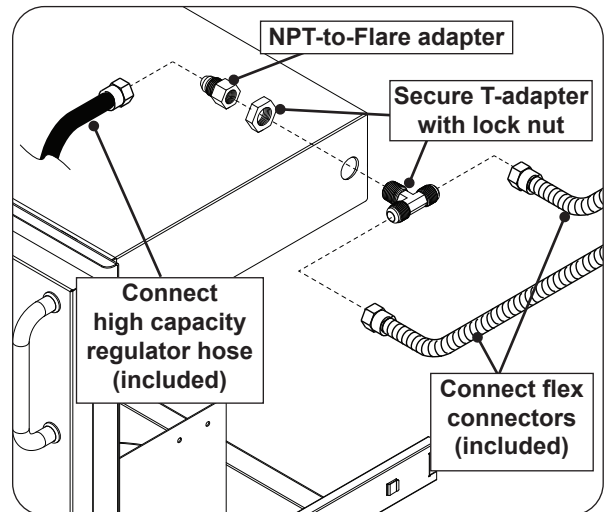

Fig. 2-2 Install new adapters and hoses
2. Locate the T-adapter included with this kit and secure the adapter to the cutout with the provided lock nut as shown in Fig. 2-2.
3. Attach the NPT-to-flare adapter to the T-adapter as shown in Fig. 2-2.
4. Attach the hose-end of the high-capacity regulator hose assembly (included with this kit) to the adapter (see Fig. 2-2).